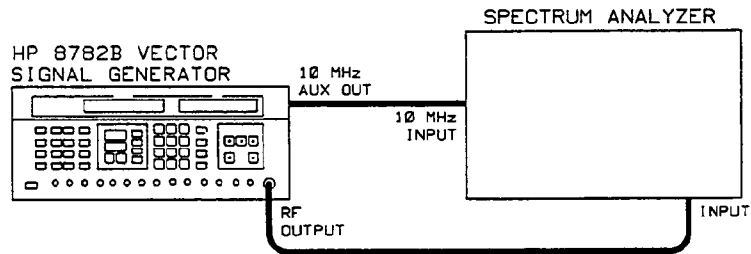

Figure 5-6.
1. Connect the equipment as shown in Figure 5-6.